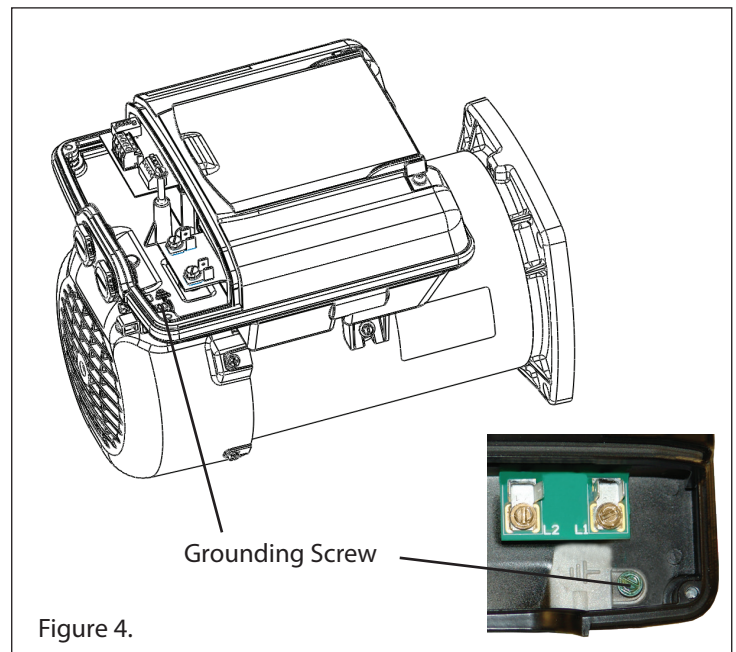

Figure 4.
6. Permanently ground the motor using the ground screw located on the inside rear of the controller interface, see figure 4. Use the correct wire size and type specified by the current local government .Be sure the ground wire is connected to an electrical service ground.